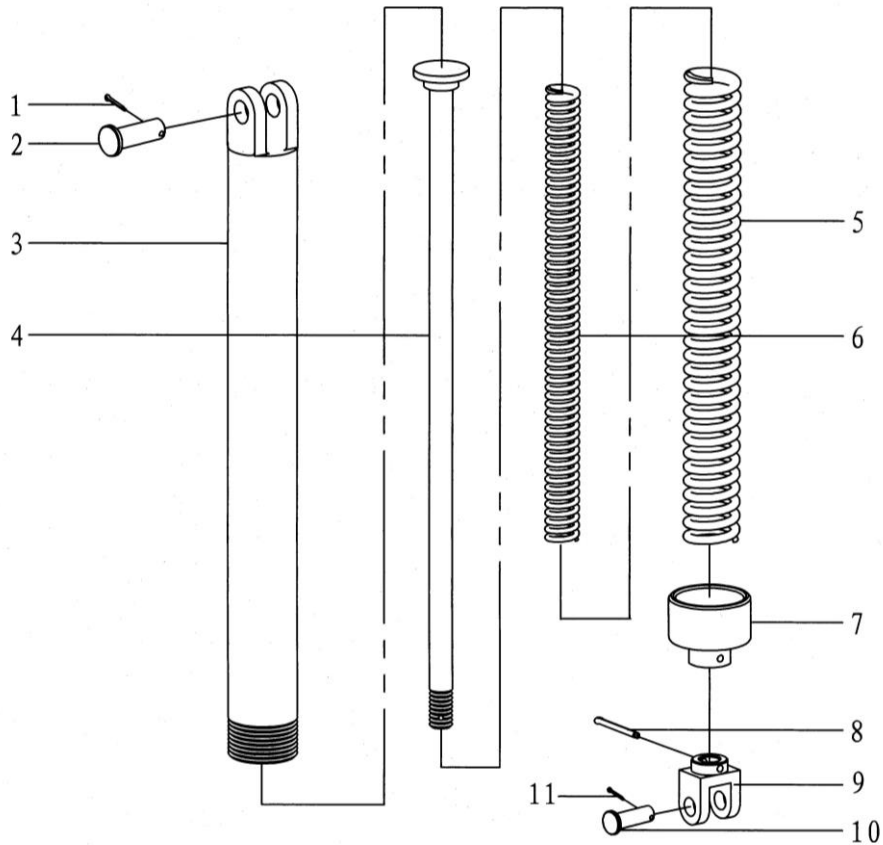

Fig.29
11.12 Spring lifting bucket and parts list (Fig.29, Table 16)